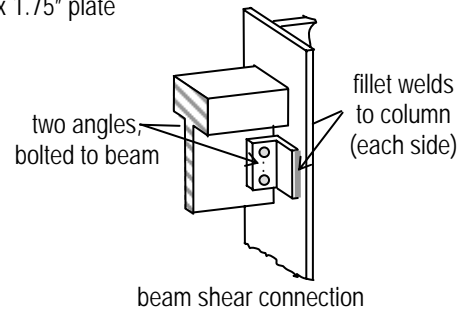

Figure 1d
- The beam end connection is detailed in Figure 1d. The angle legs are 5/16" thick, with 3/4 in diameter bolts of A325-X and standard holes.
- The moment of inertia for the cross section by completing the chart of Figure 1d.